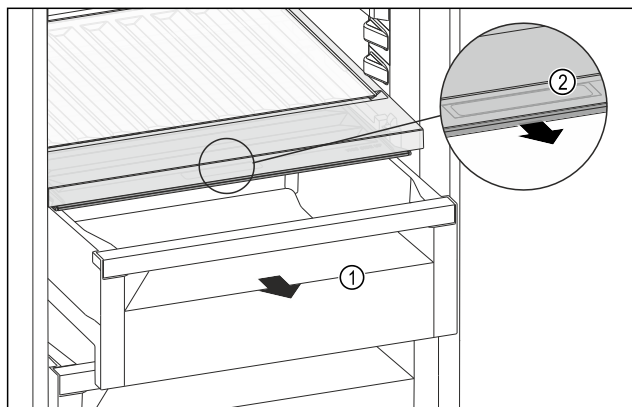

Fig. 197
- Pull out the drawer Fig. 197 (1).
- Grasp the recessed grip Fig. 197 (2) on the compartment lid and pull the compartment lid forwards at the same time.